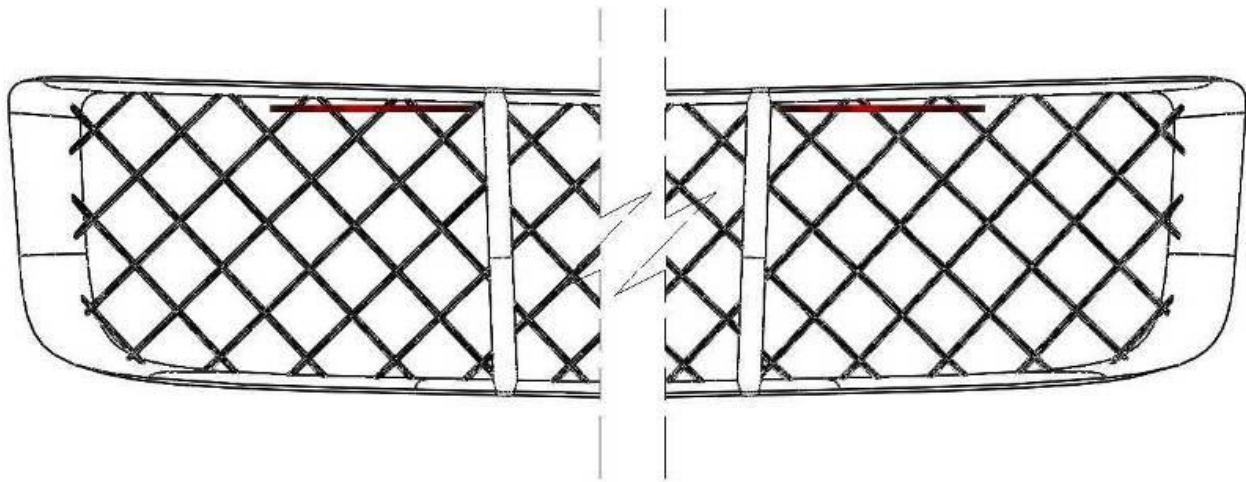

Figure 3: Grill trim guide.
8. Mark and cut grill, See fig 3. Figure shows both Driver and Passenger cut locations.